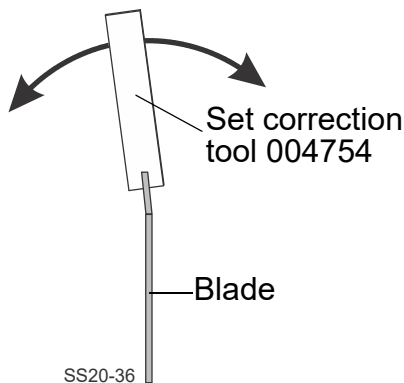

FIG. 3-17
3. If the set is not correct, it can be manually changed by using the set correction tool 004754. Place the tooth tip into the tool slot and bend the tooth until it reaches the proper set. See fig. 3-17.